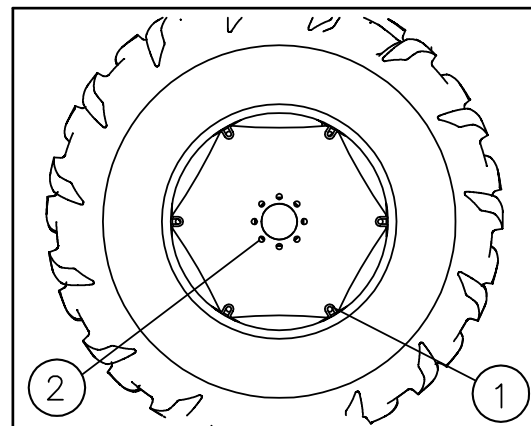

Fig. 4-24
Torque the nuts and bolts (1) (Fig. 4-24) that fix the rim to the disc to 250 Nm and those (2) that fix the disc to the wheel hub to 280 Nm. Always check tyre pressure.
Track widths can be obtained with some tyre types (Fig. 4-24)